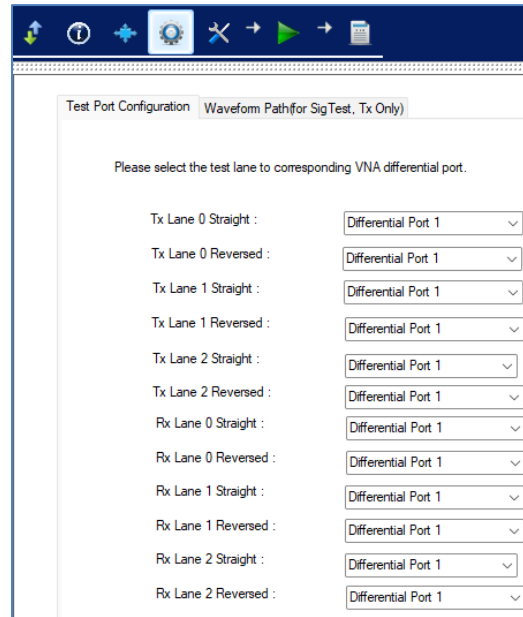

FIGURE 23. CONFIGURE TEST PORT
- c) Based on the setup configuration, connect cables from the Anritsu VNA Port 1 and 2 to the first test lane pair according to the test port configuration in Figure 23.
d) For 2-lane testing, connect another set of cables from the Anritsu VNA Port 3 and 4 to the second test lane pair on the test fixture's connectors, according to the test port configuration in Figure 23.